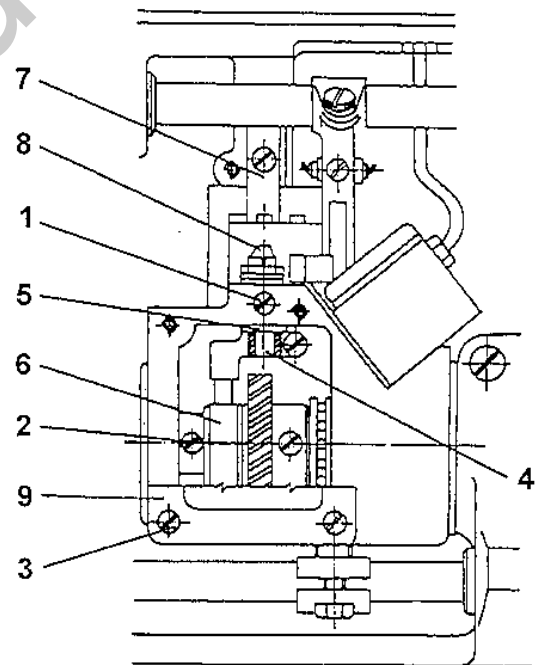

Fig. 10
13. To adjust the hook opening (Fig. 10)